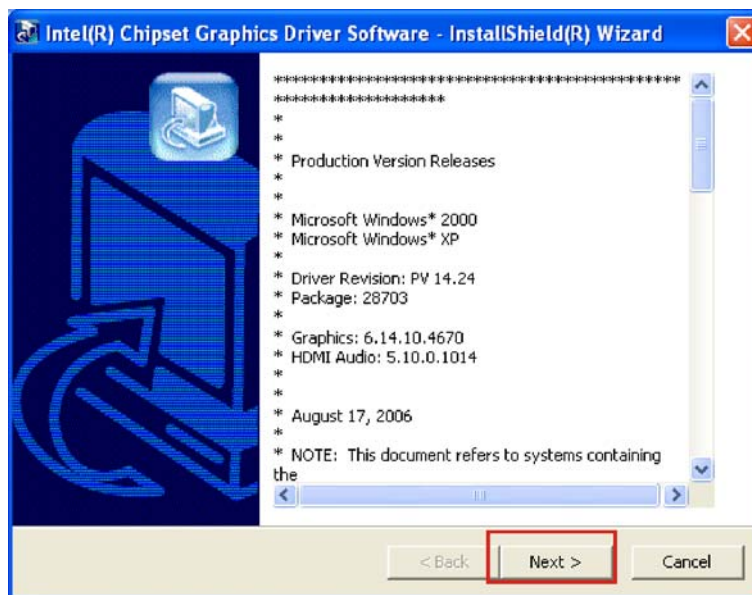

Figure 7-11: VGA Driver Read Me File
Step 5: The VGA Read Me file in Figure 7-11 appears.